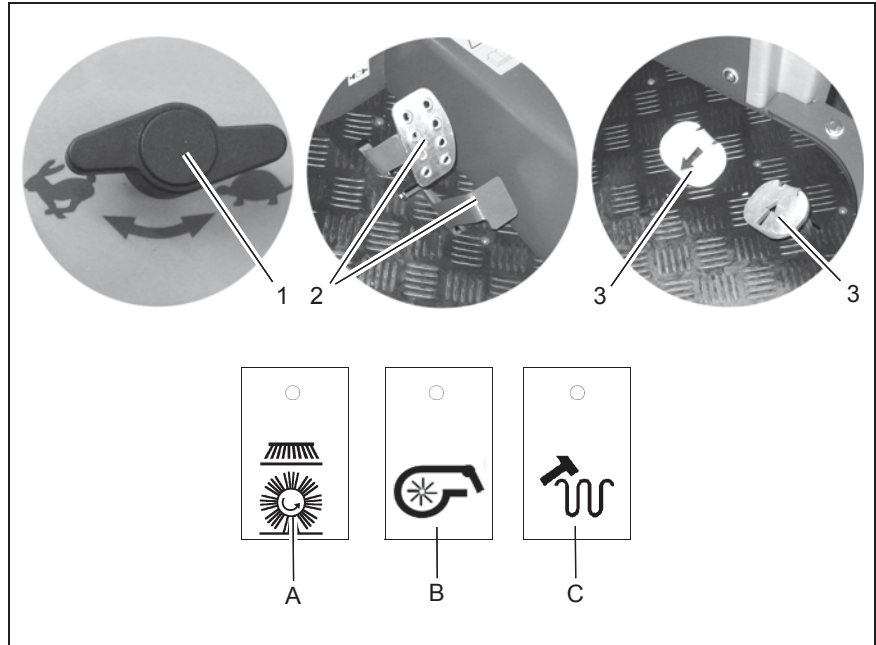

Fig.7
3. Set the engine speed switch (Fig. 7/ 1) to working speed (Hare).
4. Switch on the sweeping function with the button (Fig. 7/A). The rotary brush, side brush and suction turbine are activated.
5. In the case of damp waste, switch the suction turbine off with the button (Fig. 7/B).
6. Release the parking brake (Fig. 7/2) to its end position.
7. Slowly press the accelerator (Fig. 7/ 3) until the required driving speed is reached.
8. It is recommended to clean the filter regularly. To do this, actuate the button (Fig. 7/C).